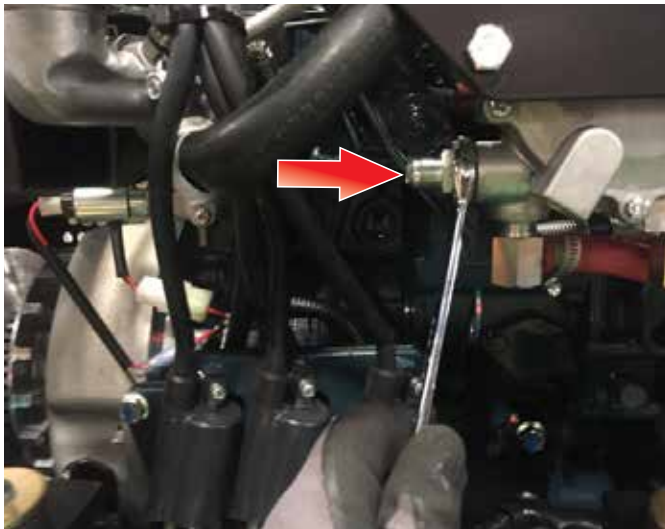

Figure 17. Straight Fitting Removal
16. Remove straight fitting (Figure 17) at the base of the regulator, and discard.